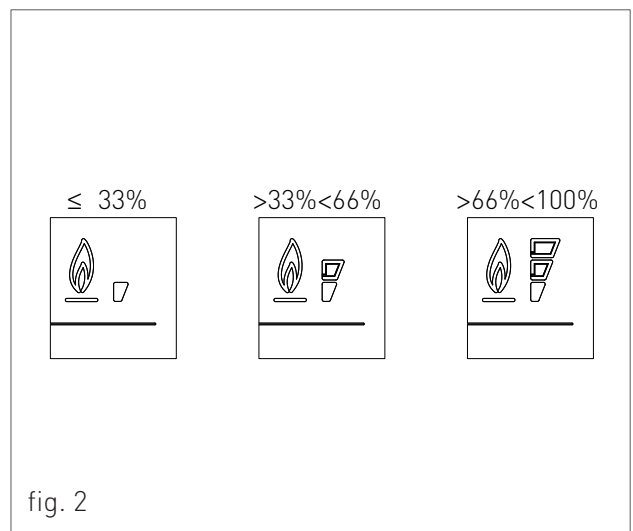

fig. 2
10. SEMNALIZAREA PREZENȚEI FLĂCĂRII / DE ASEMENEA, INDICĂ, ÎN 3 NIVELURI PROCENTUALE, NIVELUL DE PUTERE DE MODULARĂ A CENTRALEI (fig.2)